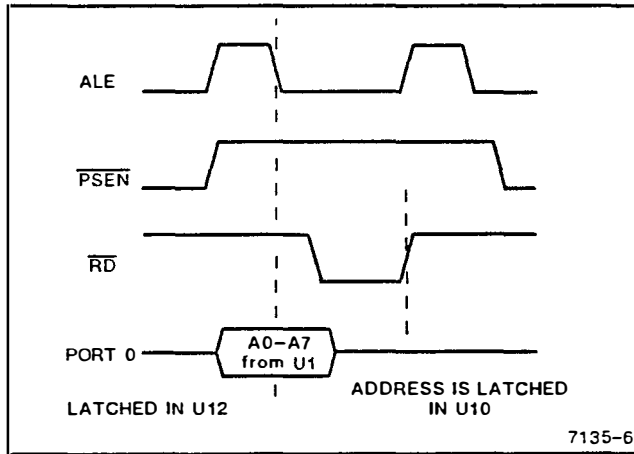

Fig. 1-6 External data memory read cycle.
As shown in Fig. 1-6, latch U10 is updated with the low address byte during an external data memory read cycle. The leading edge of the external data memory stroke (RD) latches the low address byte in U10. Digital control signals 200MV, OFFSET, REL1, REL2, REL3, REL4, and REL5 are also latched in U11.